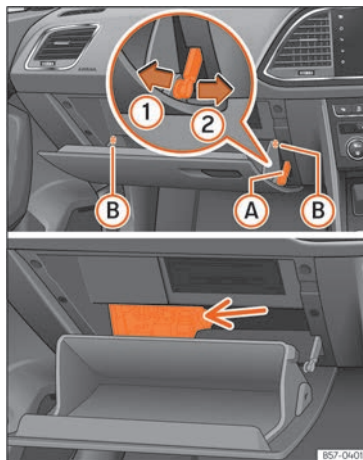

Fig. 197 Right-hand drive vehicles: fuse box cover under the passenger side dash panel.
- Undo the opening limiter >>> Fig. 197 (A) in two steps: first, unlock the limiter by pulling back on it (arrow (1)) and then move it gently to the right (arrow (2)). Remove the guide when the cover is in the normal opening position (30°).
- Free the side pivots (B) to release the cover to its second opening position (60°).